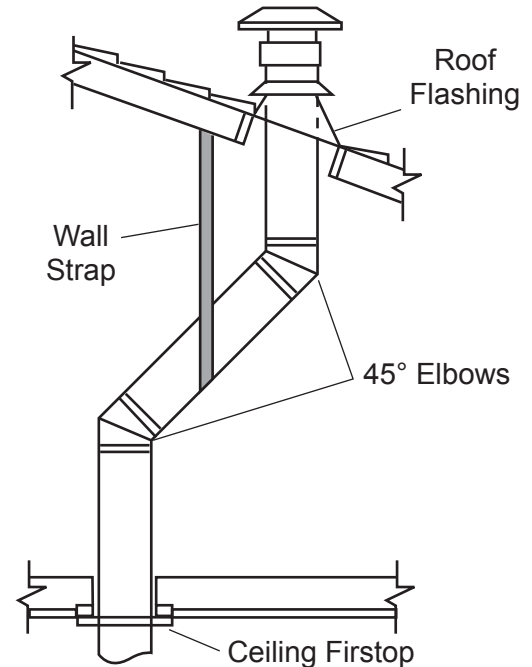

Figure 30 - Offset with Wall Strap and 45° Elbows
1. Determine the route your vertical venting will take. If ceiling joist, roof rafters or other framing will obstruct the venting system, consider an offset. Refer to *Figure 30* to avoid cutting load bearing members.